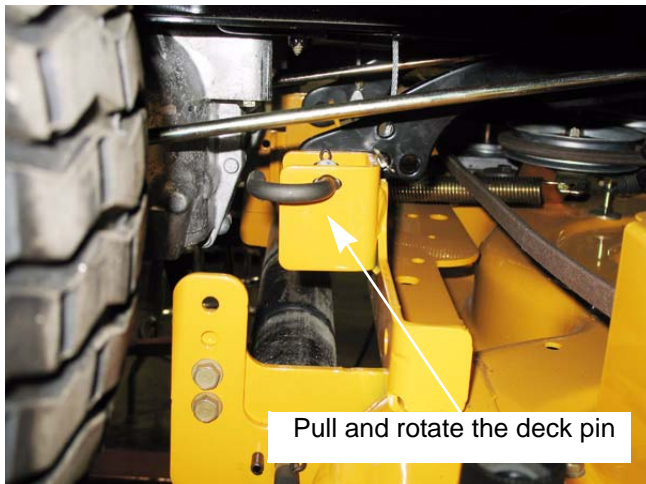

Figure 8.1
3. Pull the deck pins on both sides and rotate them to keep them out. See Figure 8.1.